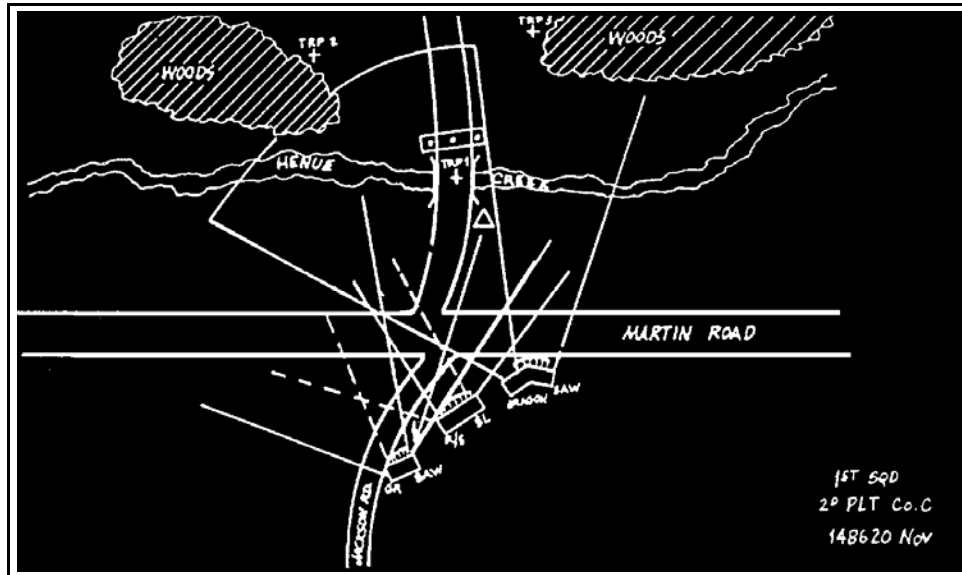

Figure 1. Fire team's sector sketch.
1. Prepare a fire team sector sketch (Figure 1). Identify and draw in the left and right limits of the fire team's sector.